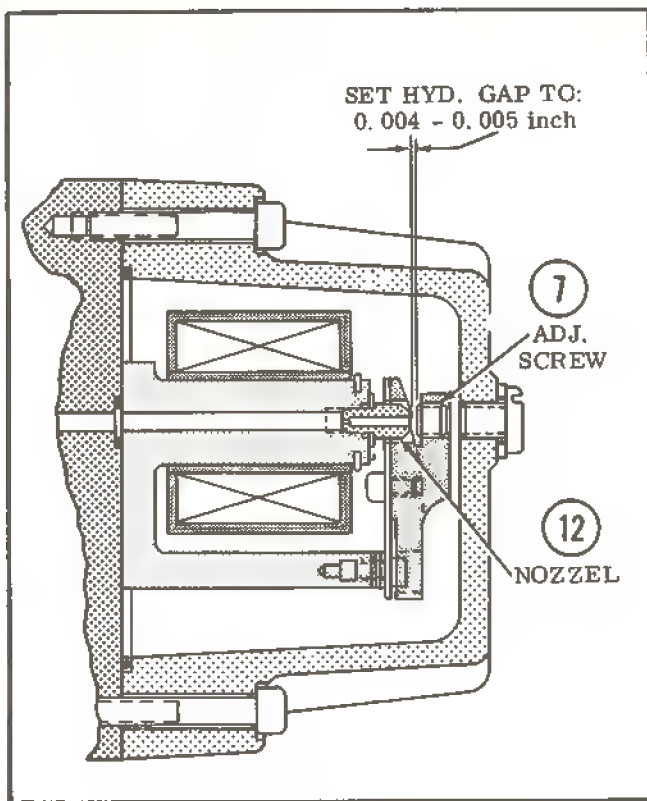

Figure 6. Setting hydraulic gap.
16. If adjustment screw (7) was removed from flapper plate (8), thread a new adjustment screw (7) into flapper plate (8).
Measure the hydraulic gap with a feeler gage to set the clearance between nozzle (12) and adjustment screw (7). The gap should be 0.004 - 0.005 inch, (0.10 - 0.13 mm). This applies to 1000 & 3000 PSI models. Refer to Figure 6.